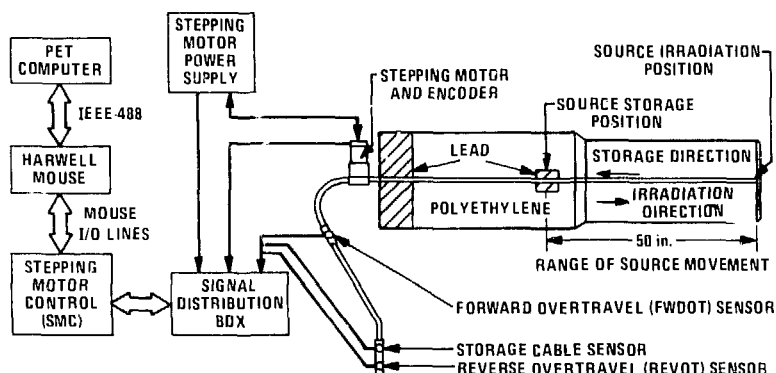

Fig. 1. Shuffler component diagram.
Major components composing the Shuffler instrument are shown in Fig. 1. Table I lists the components and gives a brief description.
7. Storage sensor	Senses when the source has reached the storage position (see Fig. 1)
8. Reverse overtravel sensor	Senses when the source has reached the reverse overtravel position (see Fig. 1)
9. Forward overtravel sensor	Senses when the source has reached the forward overtravel position (see Fig. 1)